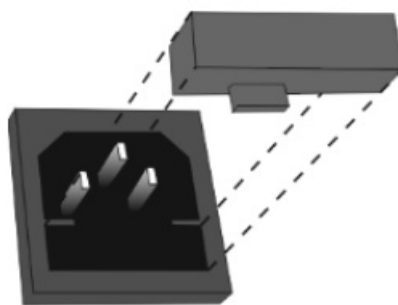

Figure 11.
- Fuse replacement. Disconnect from electric circuit. Remove the power plug from the rear side of the unit (fig. 1/2). Pull out the fuse holder by applying leverage in recess (figure 11). Remove the fuse from the holder. Check and replace with the correct fuse if necessary, M 3.15 A for 230 V and M 8.0 A for 120 V (type M – time lag: Medium).